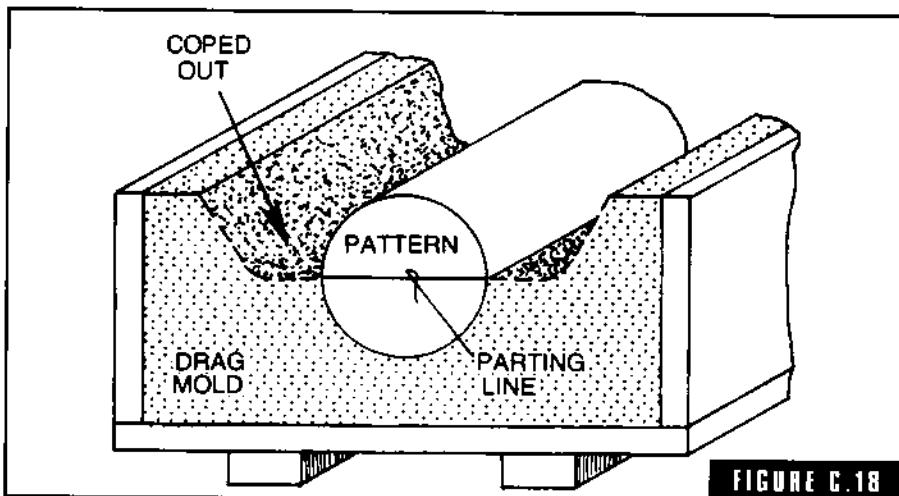

FIGURE C.18
**coping out** Extending the sand of the cope downward into the drag by cutting away a portion of the sand in the drag. This is done prior to ramming the cope to facilitate mold making and removal of the pattern by establishing the correct mold parting. It also eliminates back draft (Fig. C-18).